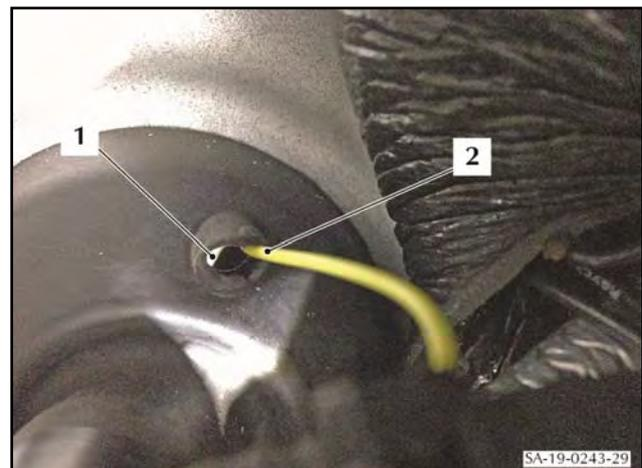

Figure 65
89. Make a hole (1) in the harness grommet that is the correct diameter for the new ground wire (2) (refer to Figure 65).
90. Put the new overlay wire (2) through the grommet into the cabin.